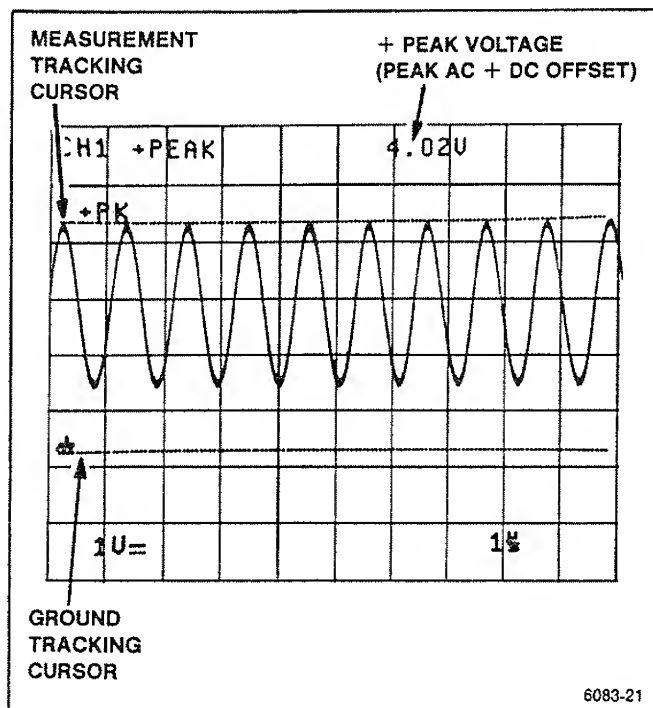

Figure 6-7. +PEAK voltage measurement and tracking cursors.
7. See Figure 6-7. The test signal used for the example has a dc offset (as shown by the position of the TRACK \uparrow cursor), and +PEAK value (peak ac + dc) as indicated by the voltage readout.